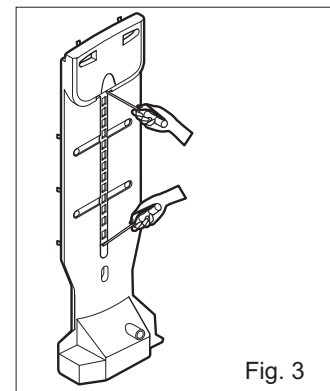

Fig. 3
1. Remove the upper and lower Caps by using a flat screwdriver, and remove 2 screws. (Fig. 3)